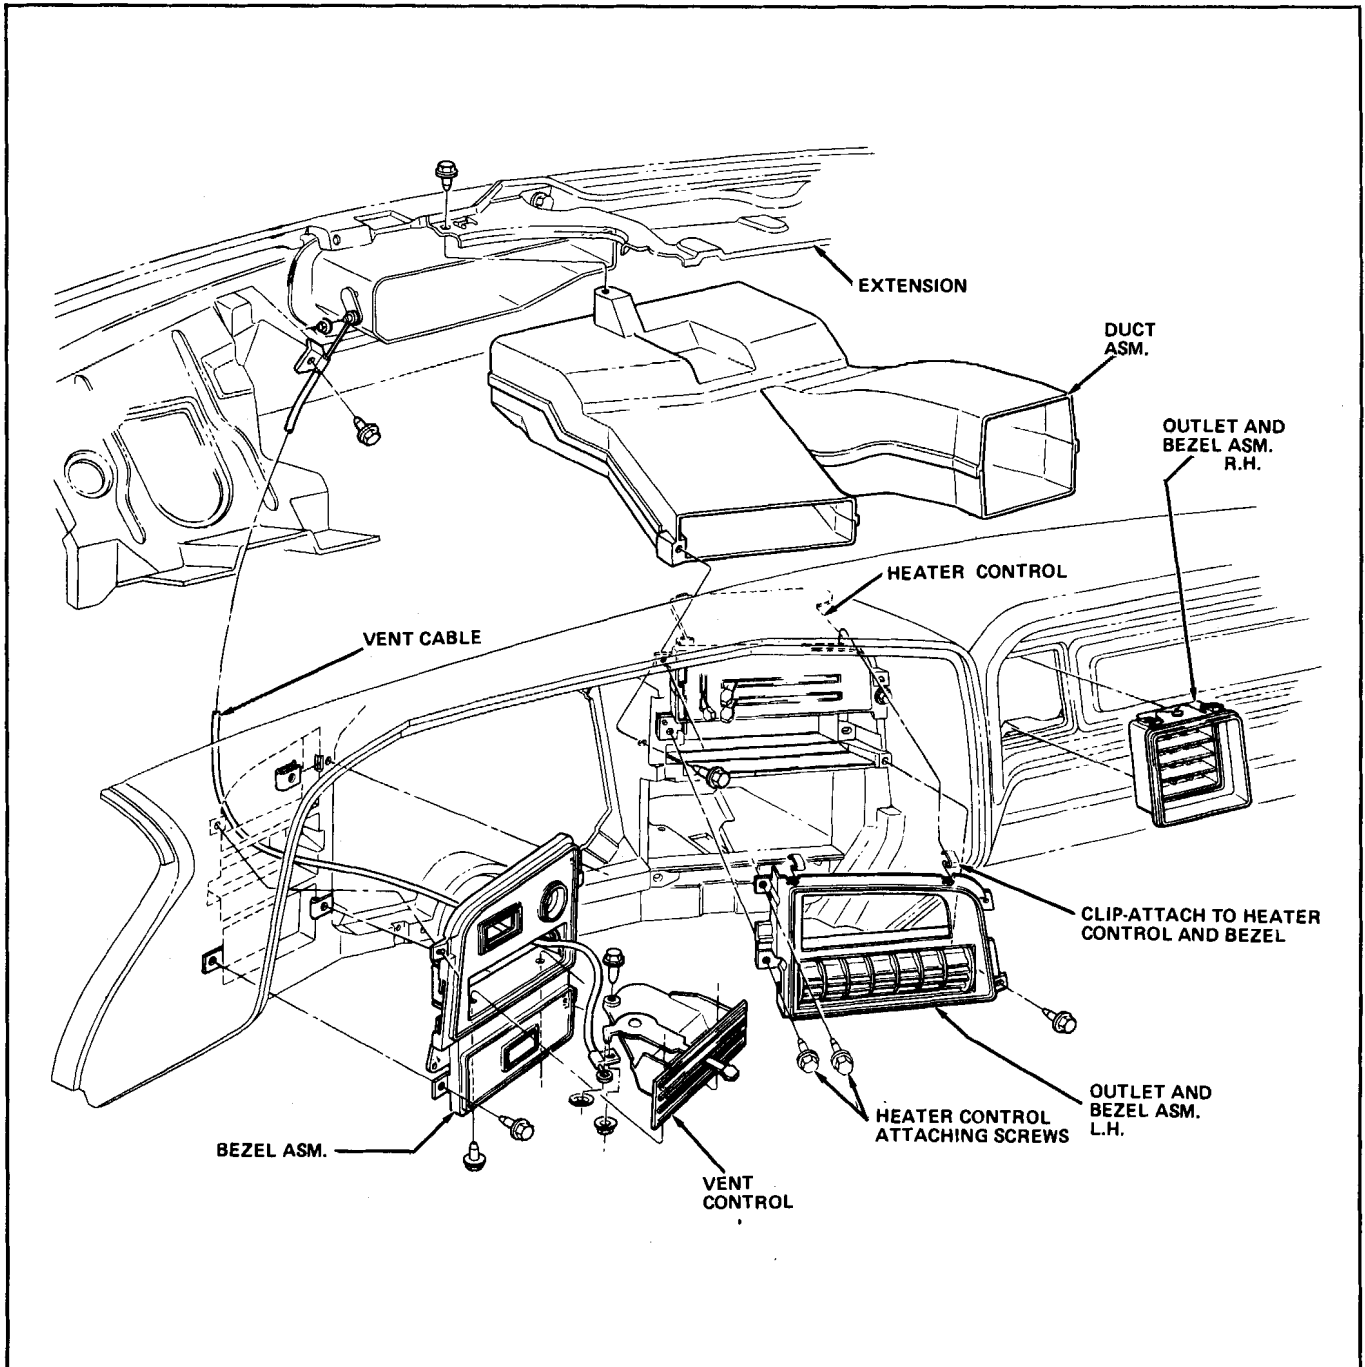

Fig. 1-33 B Series Upper (Center) Ventilation Duct and Controls
For installation of upper ventilation instrument panel attaching parts see Figs. 1-33 (B Series), 1-34 (A and G Series) and 1-35 (F Series).
2. Remove retaining screw and nut and disconnect cable at vent control panel (Fig. 1-33).
5. Remove 2 vent control panel retaining screws (Fig. 1-33) and remove control panel.
To replace the upper (center) vent duct (Fig. 1-33), perform steps 1 thru 12 of procedure for defroster nozzle replacement on B Series without air conditioning. To replace, reverse removal procedure.